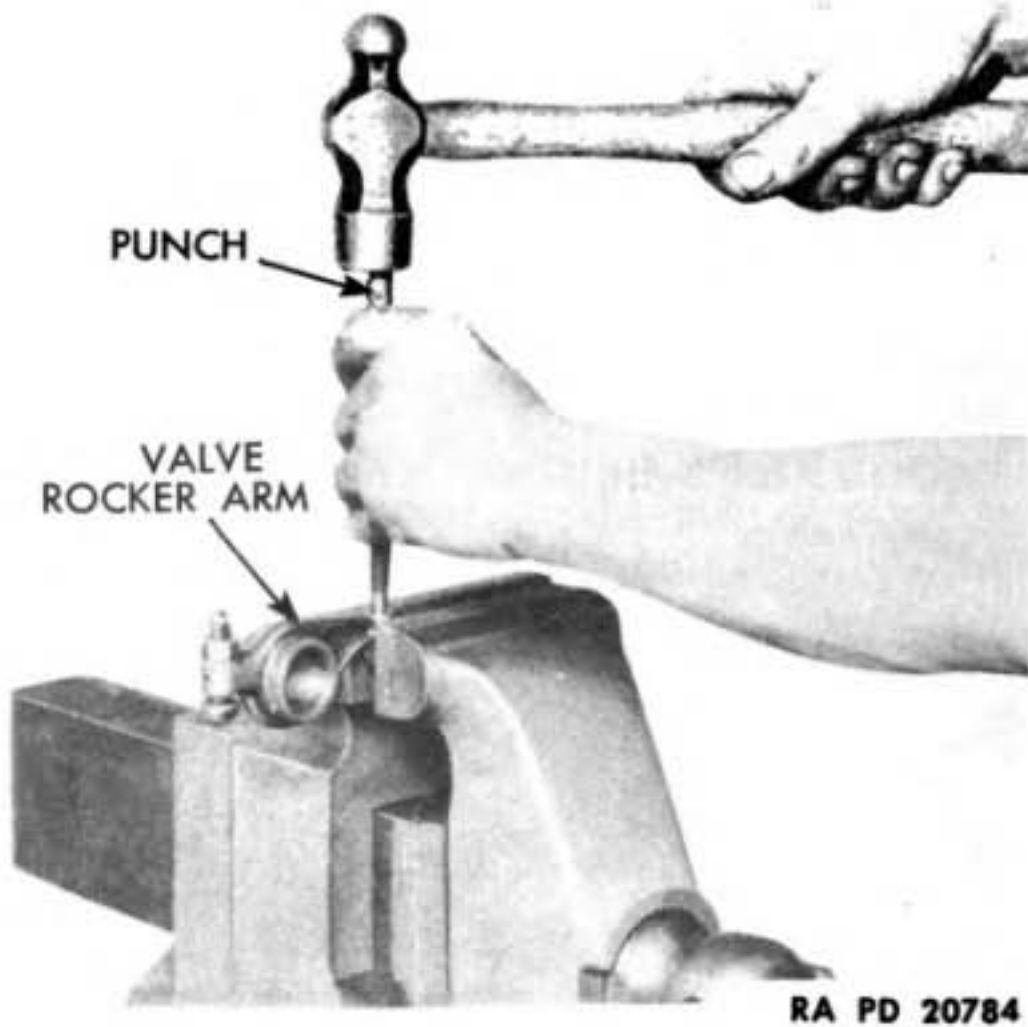

Figure 52 — Removing Valve Rocker Arm Ball
(2) **ROCKER ARM BALL.** Place rocker arm in a vise, and drive out rocker arm ball (fig. 52). Drive in serviceable ball with a lead hammer.